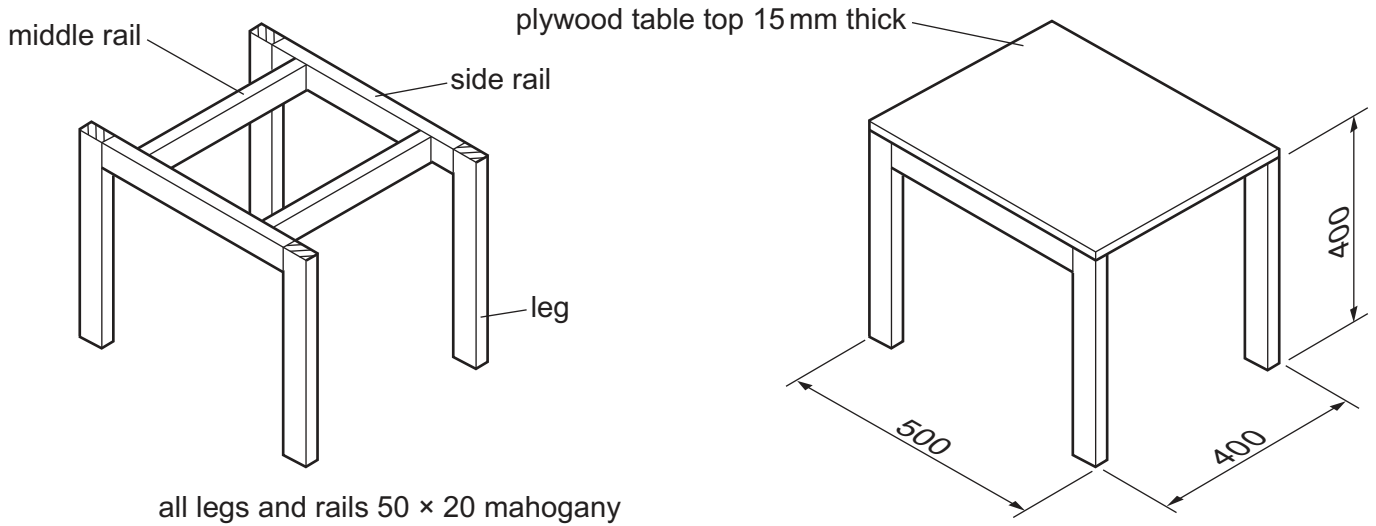

Fig. 11.1
- 11 Fig. 11.1 shows views of a table that will be assembled by customers. The parts of the table are joined by means of knock-down (KD) fittings.